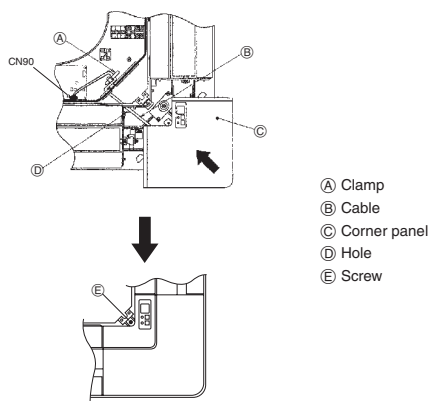

Fig. 9-10
- ① Turn off the main power switch.
- ② Disconnect the connector for the vane motor of the vent that you want to lock. (While pressing the button, remove the connector in the direction indicated by the arrow as shown in the diagram.) After removing the connector, insulate it with tape.
9.6. Installing the wireless sensor (Fig. 9-10)